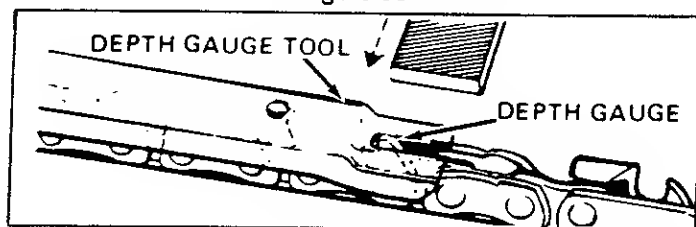

Figure 34
- a.) Place depth gauge tool over each cutter depth gauge. Figure 34.
- c.) Maintain rounded front corner of depth gauge with a flat file. Figures 34 & 35.